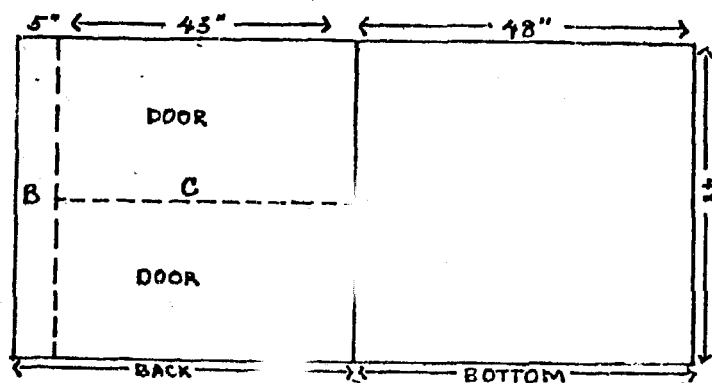

Figure 4
- 4 :DOORS, VENT AND BACK. Mark off 43" on the plywood, square off and cut. (See "A", Figure 4). Then mark a 5" strip along one end of one square piece and saw off. (See "B", Figure 4). Then divide the remaining 48" x 43" piece in half so each piece is 24" x 43". These are the doors. (See "C", Figure 4)